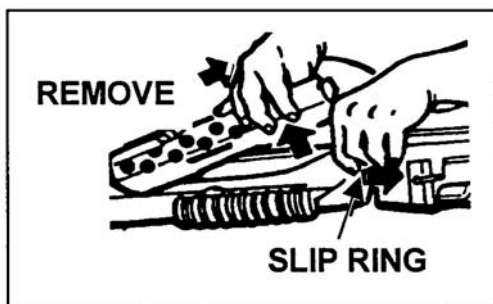

Figure 3. Removing handguards.
- b. Pull back the slip ring. Lift up on the handguard and pull it to the rear to remove (Figure 3).